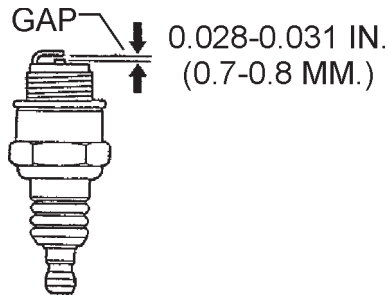

Figure 24. Spark Plug Gap
1. Remove and clean the spark plug (Figure 24).
In every 100 hours of operation, with the machine positioned horizontally, use a 14 mm wrench and remove vibrator oil level check plug (Figure 24). Measure oil level with gauge. Vibrating oil capacity is 0.63 quart (0.6 liters). Be sure to clean area around check hole to prevent dirt and dust from entering.